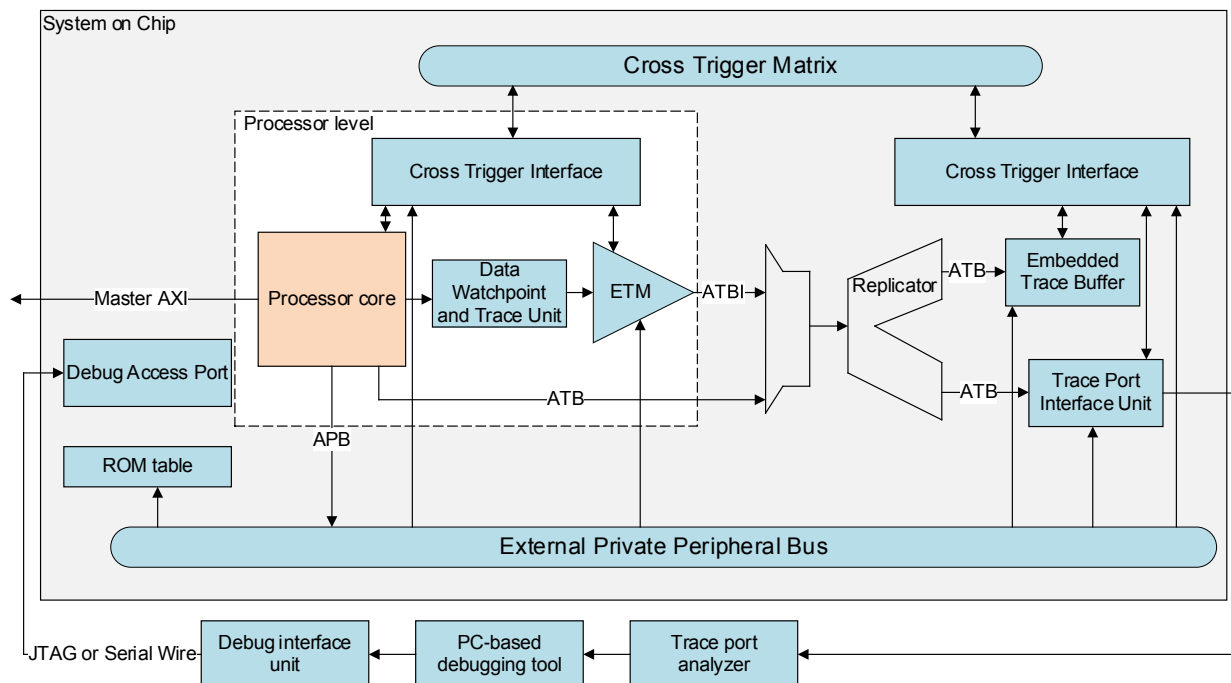

Figure 1-1 Example CoreSight system with ETM-M55
- Export the trace information through a trace port. An external *Trace Port Analyzer (TPA)* captures the trace information as shown in Figure 1-1 Example CoreSight system with ETM-M55 on page 1-13.
- Write the trace information to a trace-capable device that can access local or system memory. You can read out the trace at low speed using a *Joint Test Action Group (JTAG)* or *Serial Wire (SW)* interface.